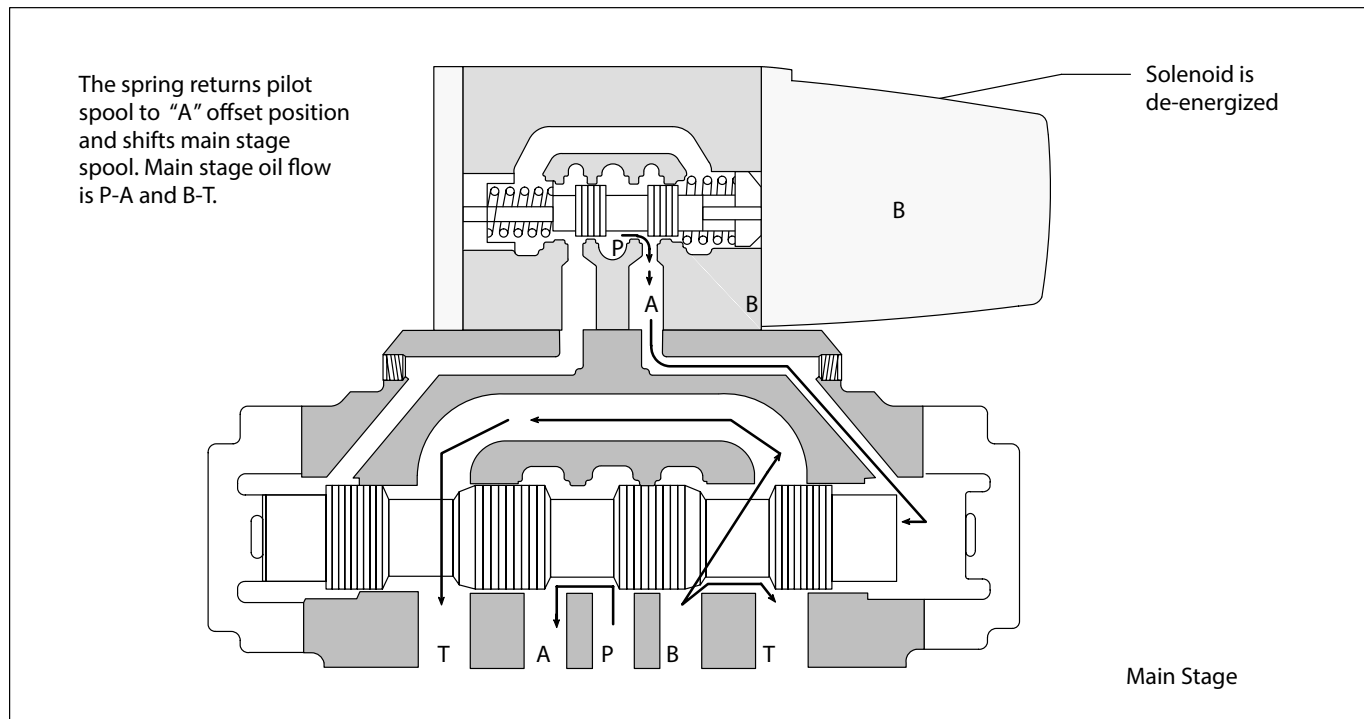

Figure 6. Spring Offset "A" Model
3. **Spring Offset** : Single stage spring offset models use one spring to return the spool to an offset position. In two-stage models, the spring and washer is removed from the main stage and offset action is obtained from the pilot valve. Offset pilots have a solenoid removed from the spring end of the valve. Spring offset pilots control the main stage when the solenoid is de-energized, through spring action, so long as pilot pressure is available. Spring offset valves have the letter "A" stamped into the nameplate (i.e. DG5S4-062A-**-51). Figure 6 illustrates an offset two-stage valve.